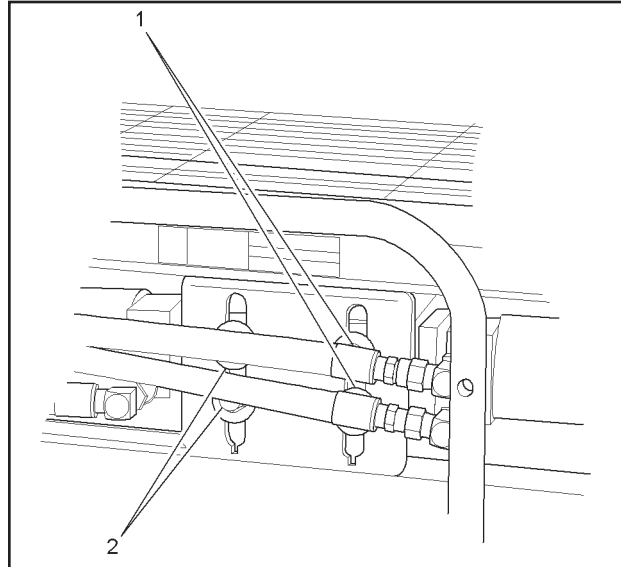

FIGURE 4-10. AUGER CHAIN ADJUSTING BOLTS
1. The auger chains should be just snug, not loose. To tighten chains, loosen bolts (see Figure 4-10, items 1 & 2) in slots provided for take up.
2. To adjust chains for the right auger, use bolts (1). For left auger adjustment use bolts (2).